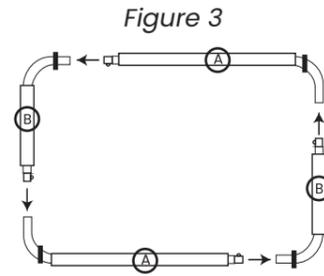

Figure 3
1. Using "J" rod (A), press the spring-lock button down, and insert into curved end of "J" rod (B) until the lock clicks (figure 3)